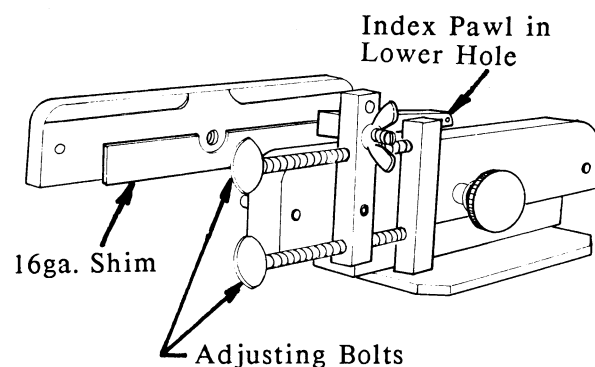

FIGURE 12
5. Now that the first tooth is ground properly, you may index off of this tooth to sharpen the remaining teeth. Flip the index pawl into position in front of the tooth just sharpened. See Figure 12. The index pawl should be in the lower pivot hole. The upper hole is used when sharpening chain saw blades. Adjust the thumb bolt adjusters so that when the sharpened tooth is pushed against the pin, the grinding wheel lightly grinds the second tooth as it did the first.